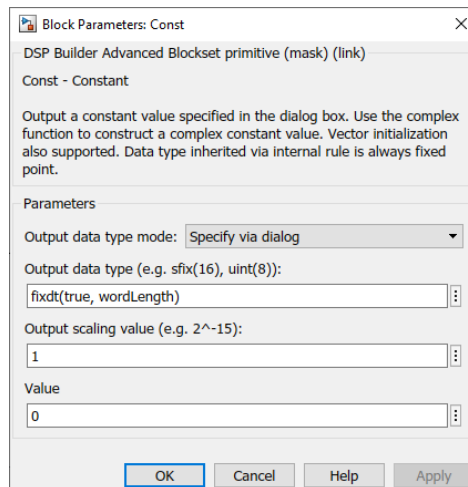

Figure 7: Parameter settings for the *Const* block.
- In this simple transmitter you will only use the I signal to transmit data, and keep the Q signal at a constant 0. Add a *Const* block from the **DSP Builder for Intel FPGAs - Advanced Blockset/Primitives/Primitive Basic Blocks** library and connect it to the *Q.out* port by clicking close to the visible terminal of the *Const* block and dragging the wire to the terminal of the *Q.out* port. You will also need to specify the data type and value of the *Const* block, thus open the settings for this block and set **Output data type mode** to **Specify via dialog**. The **Output data type** should be set to `fixdt(true, wordLength)`, where the first argument to the `fixdt` command indicates that the data type is signed and the second set the number of bits used to store the value, i.e. the word length (that you previously stored in the `wordLength` variable in the MATLAB workspace). The **Output scaling value** should be set to 1 and the **Value** to 0. Verify that the settings match Fig. 7 and click **OK**.